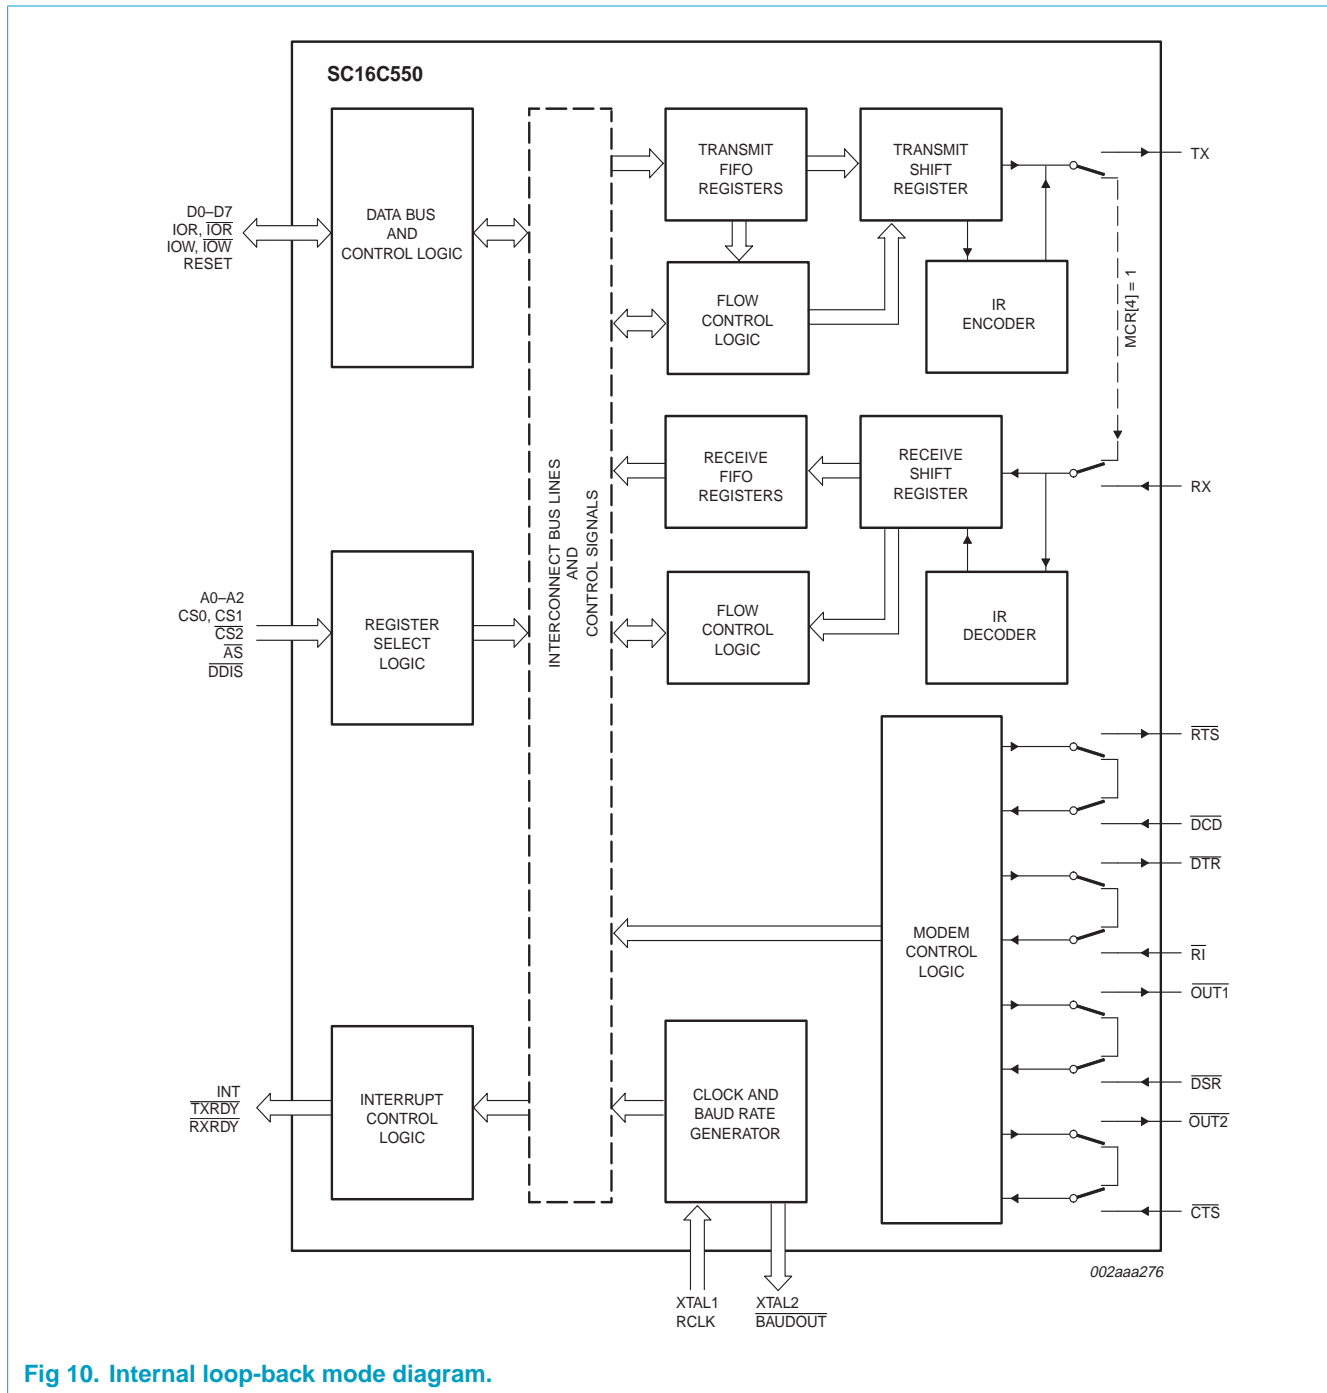

Fig 10. Internal loop-back mode diagram.
The internal loop-back capability allows on-board diagnostics. In the loop-back mode, the normal modem interface pins are disconnected and reconfigured for loop-back internally. MCR[0-3] register bits are used for controlling loop-back diagnostic testing. In the loop-back mode, OUT1 and OUT2 in the MCR register (bits 3-2) control the modem  $\overline{\text{RI}}$  and  $\overline{\text{DCD}}$  inputs, respectively. MCR signals  $\overline{\text{DTR}}$  and  $\overline{\text{RTS}}$  (bits 0-1) are used to control the modem  $\overline{\text{CTS}}$  and  $\overline{\text{DSR}}$  inputs, respectively. The transmitter output (TX) and the receiver input (RX) are disconnected from their associated interface pins, and instead are connected together internally (see Figure 10). The  $\overline{\text{CTS}}$ ,  $\overline{\text{DSR}}$ ,  $\overline{\text{DCD}}$ , and  $\overline{\text{RI}}$  are disconnected from their normal modem control input pins, and instead are connected internally to  $\overline{\text{DTR}}$ ,  $\overline{\text{RTS}}$ , OUT1 and OUT2. Loop-back test data is entered into the transmit holding register via the user data bus interface, D0-D7. The transmit UART serializes the data and passes the serial data to the receive UART via the internal loop-back connection. The receive UART converts the serial data back into parallel data that is then made available at the user data interface D0-D7. The user optionally compares the received data to the initial transmitted data for verifying error-free operation of the UART TX/RX circuits.